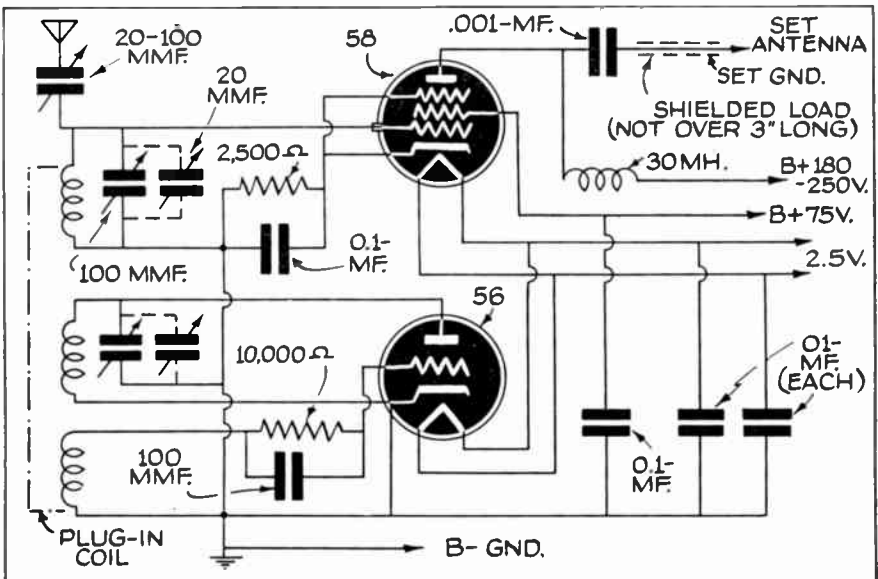

Fig. 36
(A) See Fig. 36. The band-spread condensers are optional.